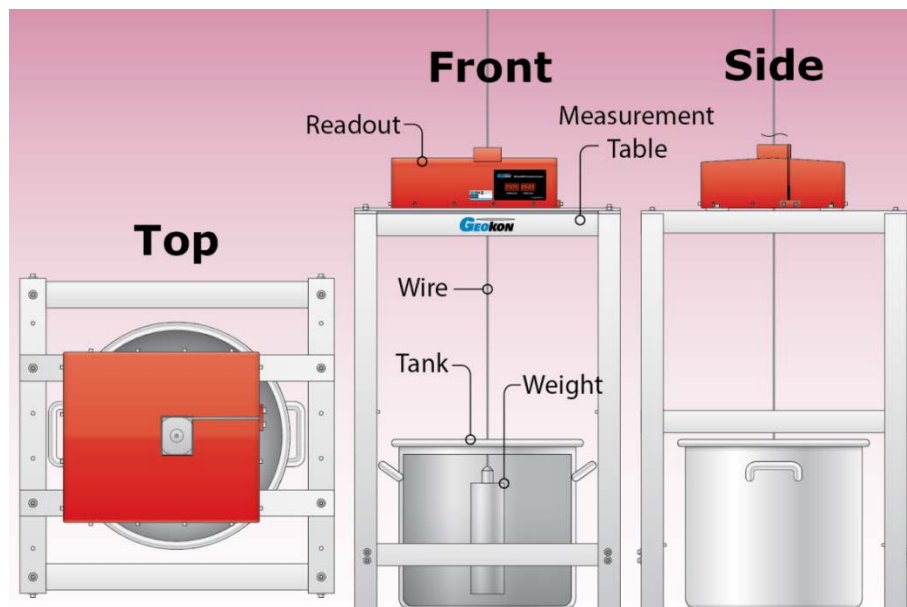

Figure 10 - Direct Pendulum System with Measurement Table
- 12) Lower the readout onto the table so that Velcro strips on the bottom of the cabinet contact the ones on the mounting surface. Figure 10 depicts the assembly thus far.